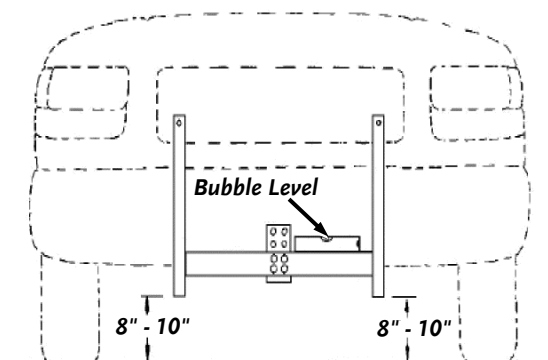

Figure 3
3. With bolts snug tight, level push frame horizontally (**Figure 3**).